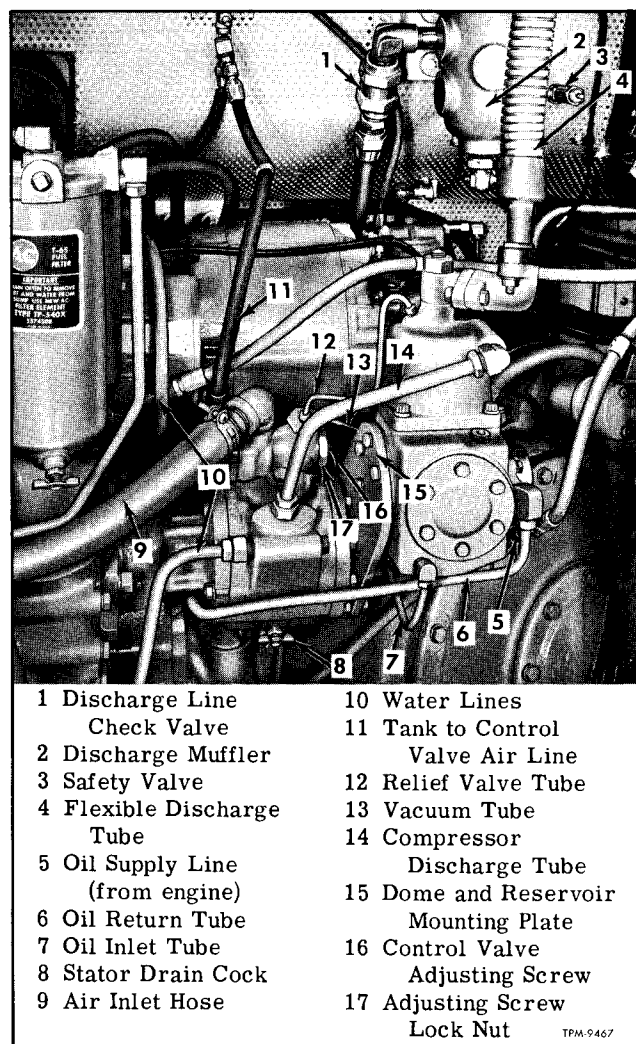
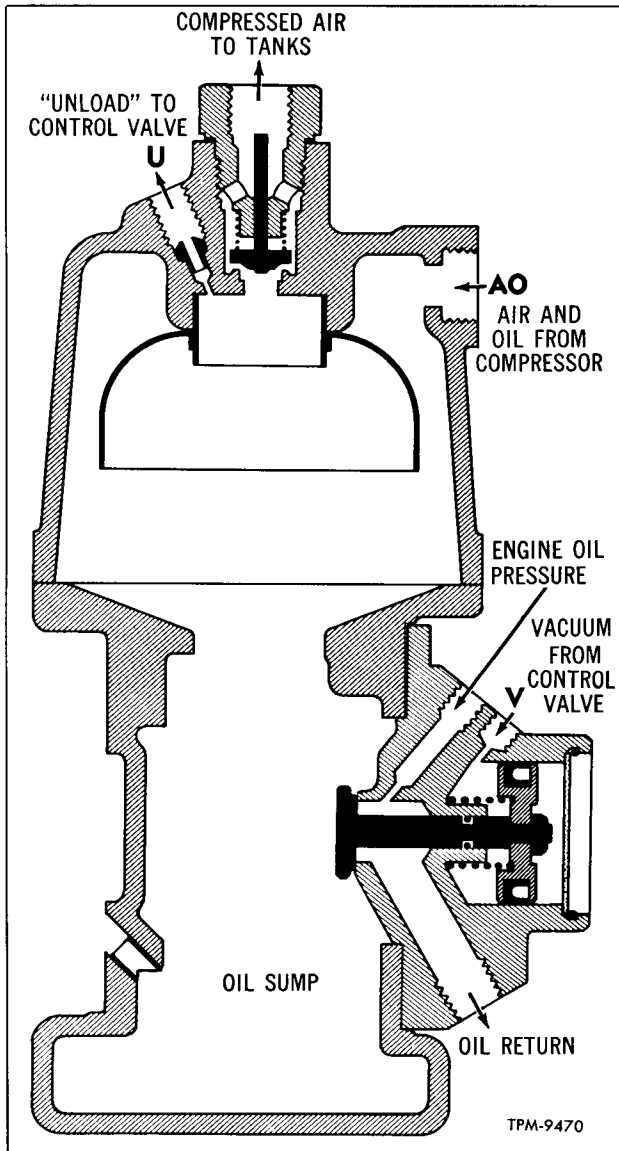

Figure 1—Rotary Air Compressor Installed
Figure 3—Air Dome, Reservoir, and Lubricating Valve Operation
Figure 1 shows the compressor and control valve assembly, air dome and oil reservoir assembly, compressor discharge muffler, and compressor discharge line check valve installed, together with the connecting water, oil, and air lines. The compressor, control valve, and air dome and oil reservoir assembly and their interconnecting components and tubes are also shown in figure 3.
2. To adjust cut-out pressure, loosen lock nut (17, fig. 1) and turn adjusting screw (16, fig. 1) clockwise to increase cut-out pressure or counter-clockwise to decrease it. One complete turn of adjusting screw will change the cut-out pressure about 10 psi. Tighten lock nut on adjusting screw after correct adjustment is obtained.
Key numbers in text refer to figure 1 except where otherwise indicated.